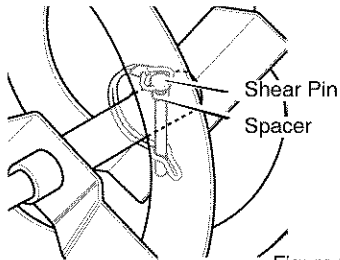

Figure 38
3. Align the hole in the auger with the hole in the auger shaft. Install the new **shear pin** and **spacer**. See Figure 38.